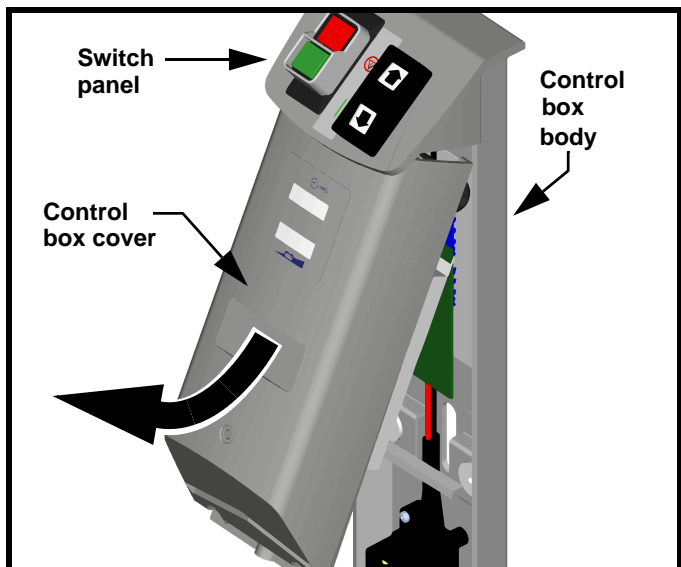

Fig. 24
- 4) Push down and away to disengage the control box cover for maintenance (see Fig. 24).
- 1) Insert the top end of the cover under the switch panel (see Fig. 24).